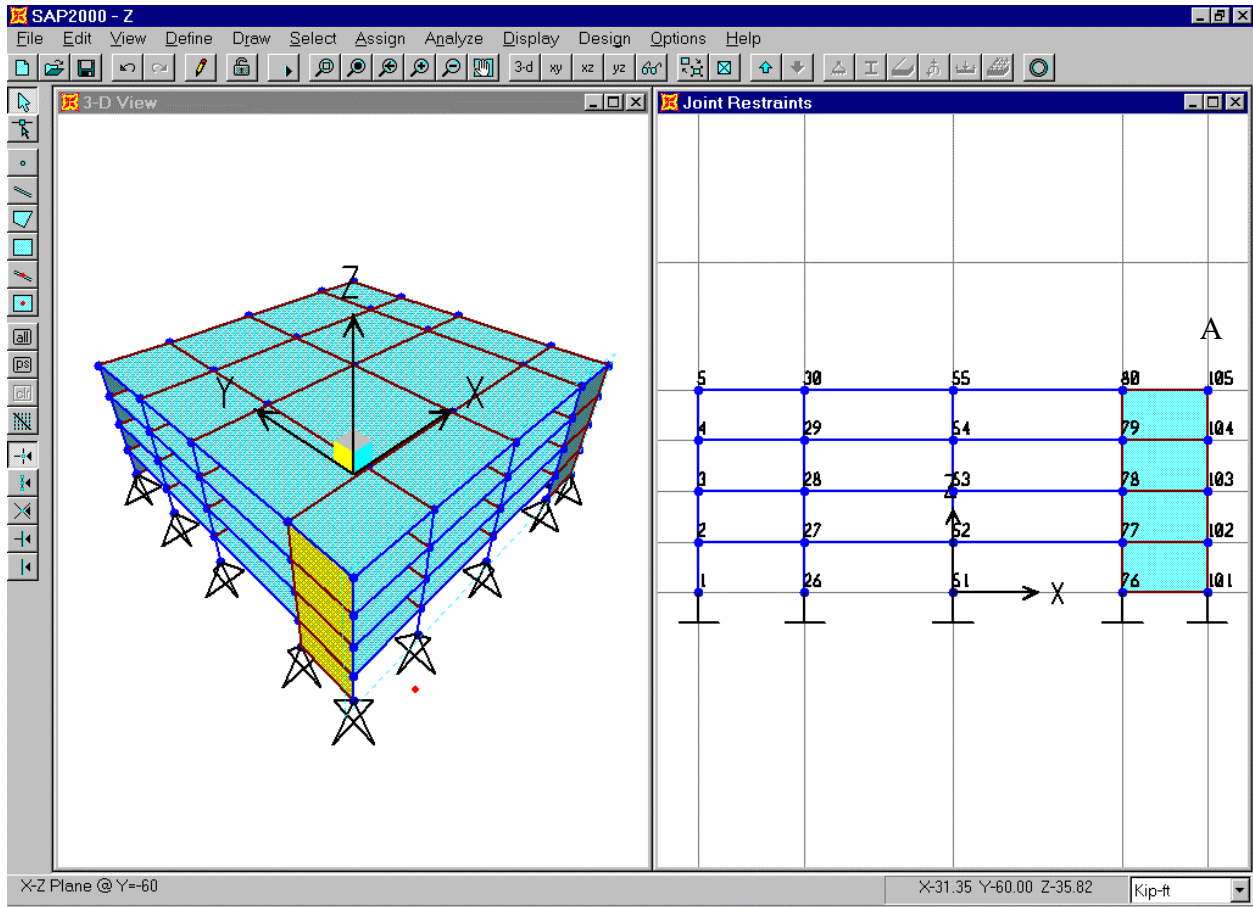

Figure Z-3: Screen After Step 81
- Click the **OK** button. The screen appears as shown in Figure Z-3.
83. Click on the grid line at the point labeled “A” in Figure Z-3 to enter the flagpole frame element.